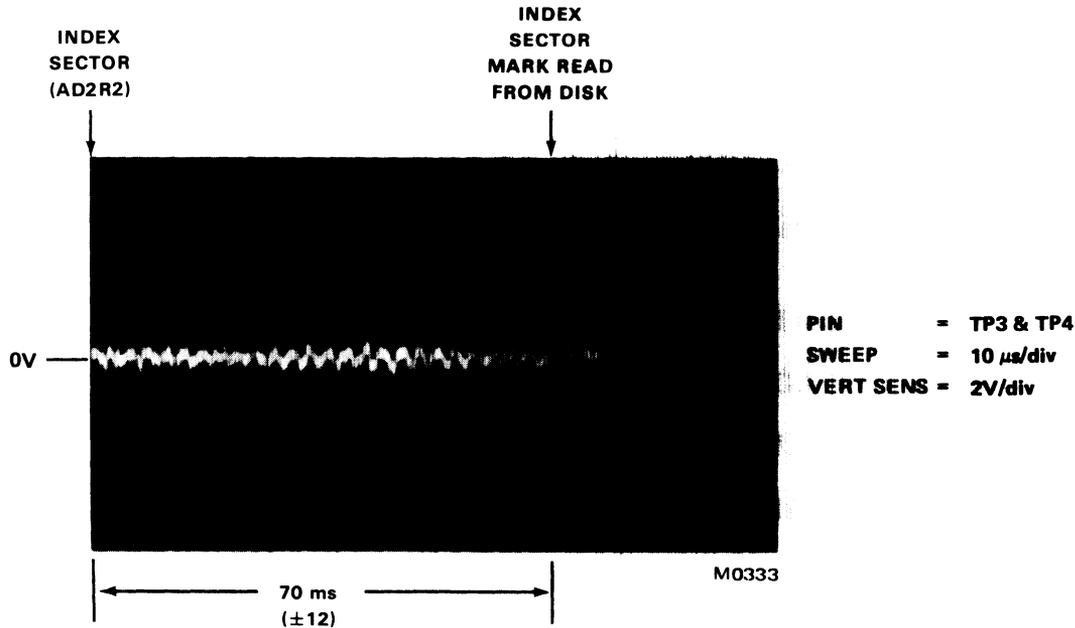

Figure 5-25 Index/Sector Waveform
11. Expand the sweep time to $10 \mu\text{s}/\text{div}$ and check that the single pulse occurs $70 \pm 12 \mu\text{s}$ from the start of the sweep (Figure 5-25).